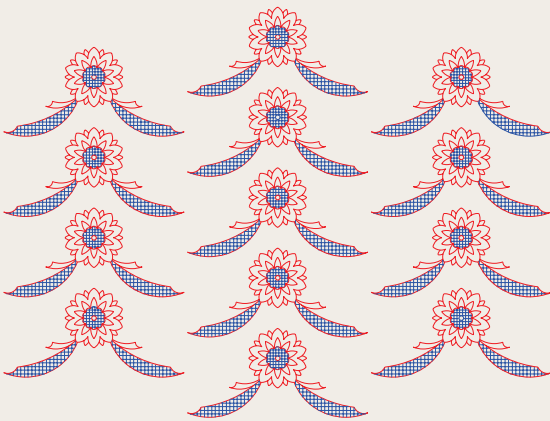
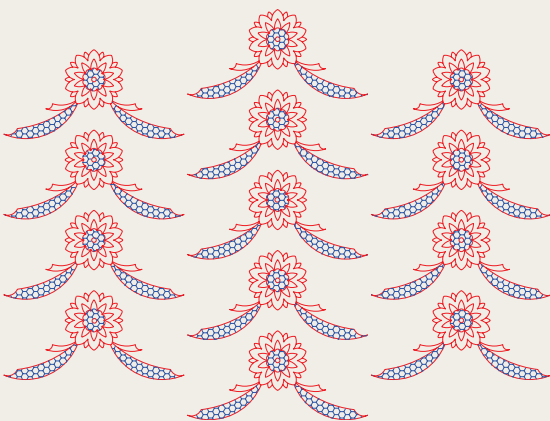

Fig. 10.26 Exercise 1 – original pattern
Fig. 10.27 Exercise 1
- Figure 10.26 shows a pattern formed by inserting an **External Reference** and then copying or arraying the **External Reference**. The hatched parts of the **External Reference** drawing were then changed using a different hatch pattern. The result of the change is shown in Fig. 10.27. Construct a similar **Xref** drawing, insert as an **Xref**, array or copy to form the pattern, then change the hatching, save the **Xref** drawing and note the results.